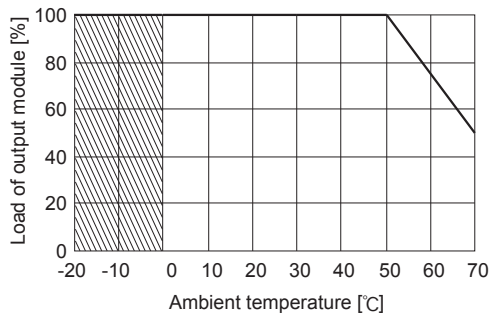

Fig. 4.6 Derating curve for ambient temperature
■The derating curve for the ambient temperature (inlet temperature for cooling) of output modules is shown in Fig. 4.6.
Accordingly, because the derating curve (Fig. 4.6) indicates that up to 100% of the maximum load can be used up to 50℃ and the largest value amongst A_0 , A_{11} , A_{21} , A_{31} , A_{41} , and A_{51} is 100%, this assures that these input and output conditions are acceptable.
Accordingly, because the derating curve (Fig. 4.6) indicates that up to 100% of the maximum load can be used up to 50°C and the largest value amongst A_0 , A_{11} , A_{21} , A_{31} , A_{32} , A_{41} , and A_{51} is 96%, this assures that these input and output conditions are acceptable.